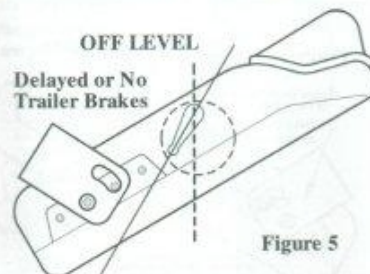

Figure 5
- Pendulum leveling arm adjusted too far to the rear the controller (Fig. 5):